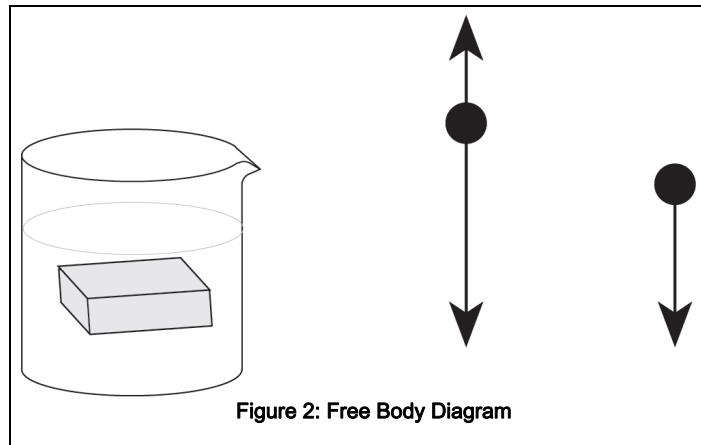

Figure 2: Free Body Diagram
When an object is submerged in a fluid, the apparent weight of the object is less than the weight in air because of the buoyant force (See Figure 2).
2. While waiting, find the mass of a dry styrofoam cup and then prepare a styrofoam cup of cold water (about 3°C below room temperature) into which the heated object can be completely submerged. When the object has finished heating, record the temperature of the cold water to the nearest tenth of a degree, then record the temperature of the boiling water, and quickly transfer the heated object from the hot water to the cold water (See Figure 2). Record in Table 4.1.